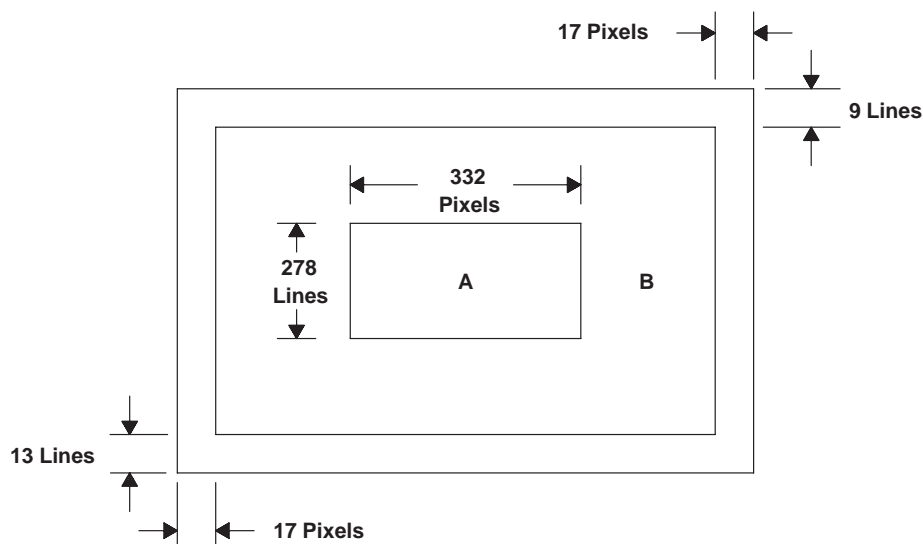

Figure 5. Sensor-Area Map
- Location of the nonuniformity (see Figure 5)